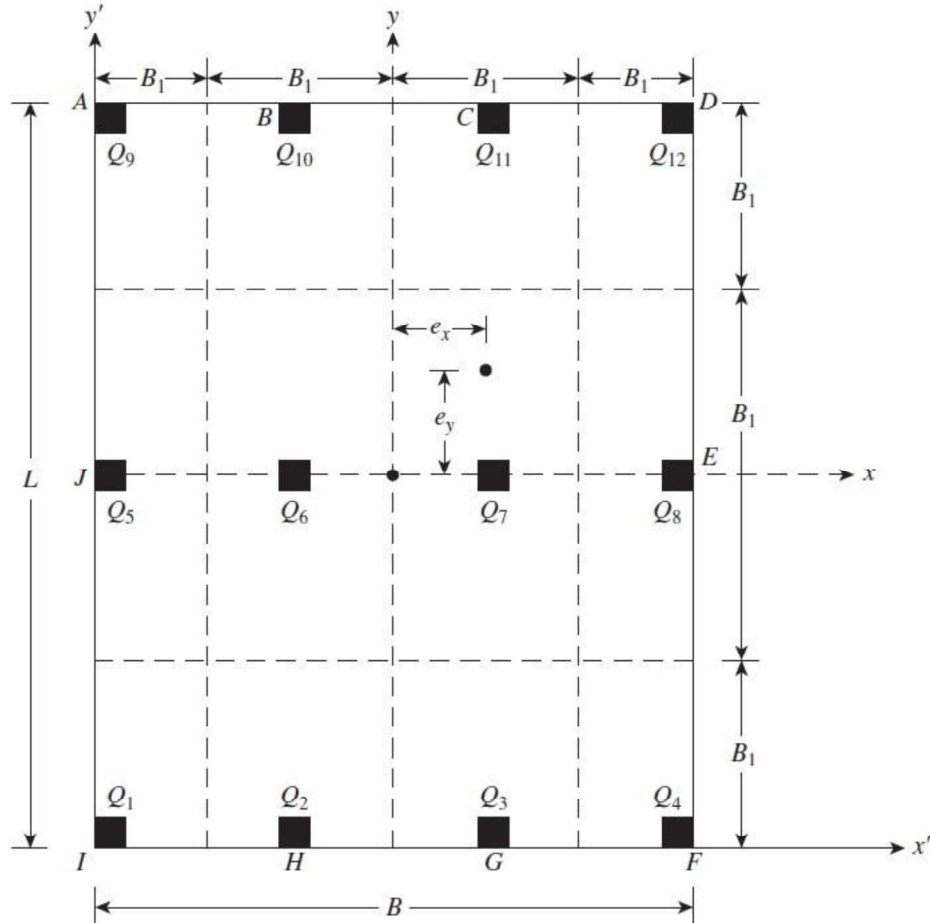

Fig.2 Mat dimensions and columns load
Locate the centerlines of the footing by drawing the x & y axis as shown in Fig.2
Referring to Fig.2
Step 4. Divide the mat into several strips in the x and y directions. (See Fig.2). Let the width of any strip be B_1 .
Step 5. Draw the shear, V , and the moment, M , diagrams for each individual strip (in the x and y directions). For example, the average soil pressure of the bottom strip in the x direction of Fig.2 is